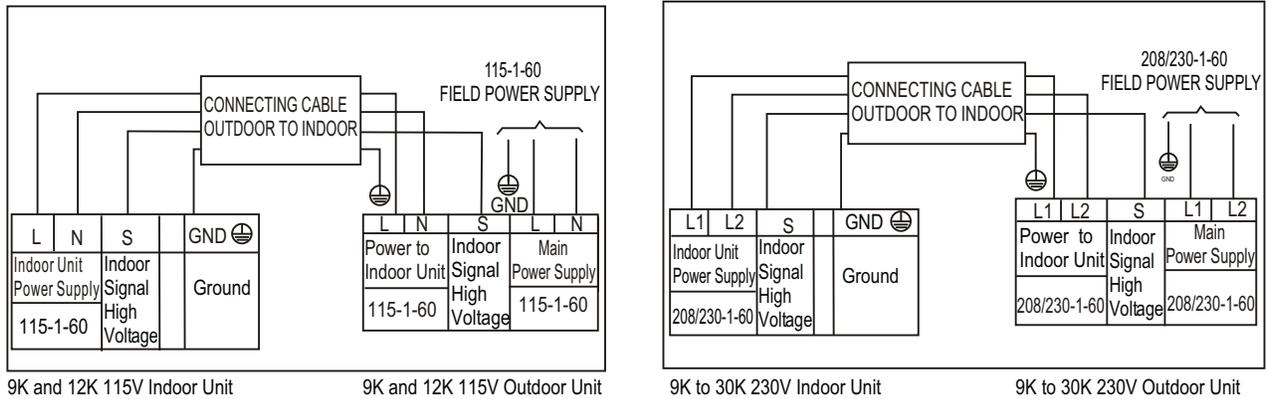

Fig. 11 — Connection Diagrams
2. All connections between the indoor and outdoor units must be as shown in Fig. 11. **The connections are sensitive to polarity and will result in a fault code.**